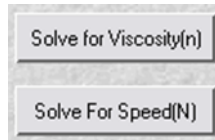

Figure 12: Solve for Viscosity or Speed
6. To interpolate (solve) for a particular viscosity or speed, click the desired button (**Solve for Viscosity** or **Solve for Speed**) and enter the known value. Then press the Tab or Enter key to calculate the solution. Refer to Figure 12.